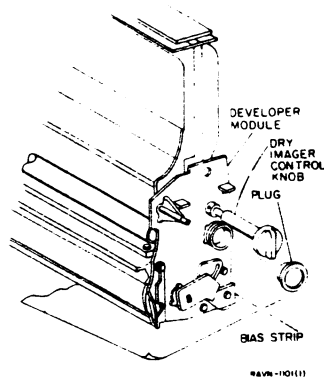

Figure 1. Putting the Developer Module on Dropcloth
- 4 PUT DEVELOPER MODULE ON DROPCLOTH (FIGURE 1).